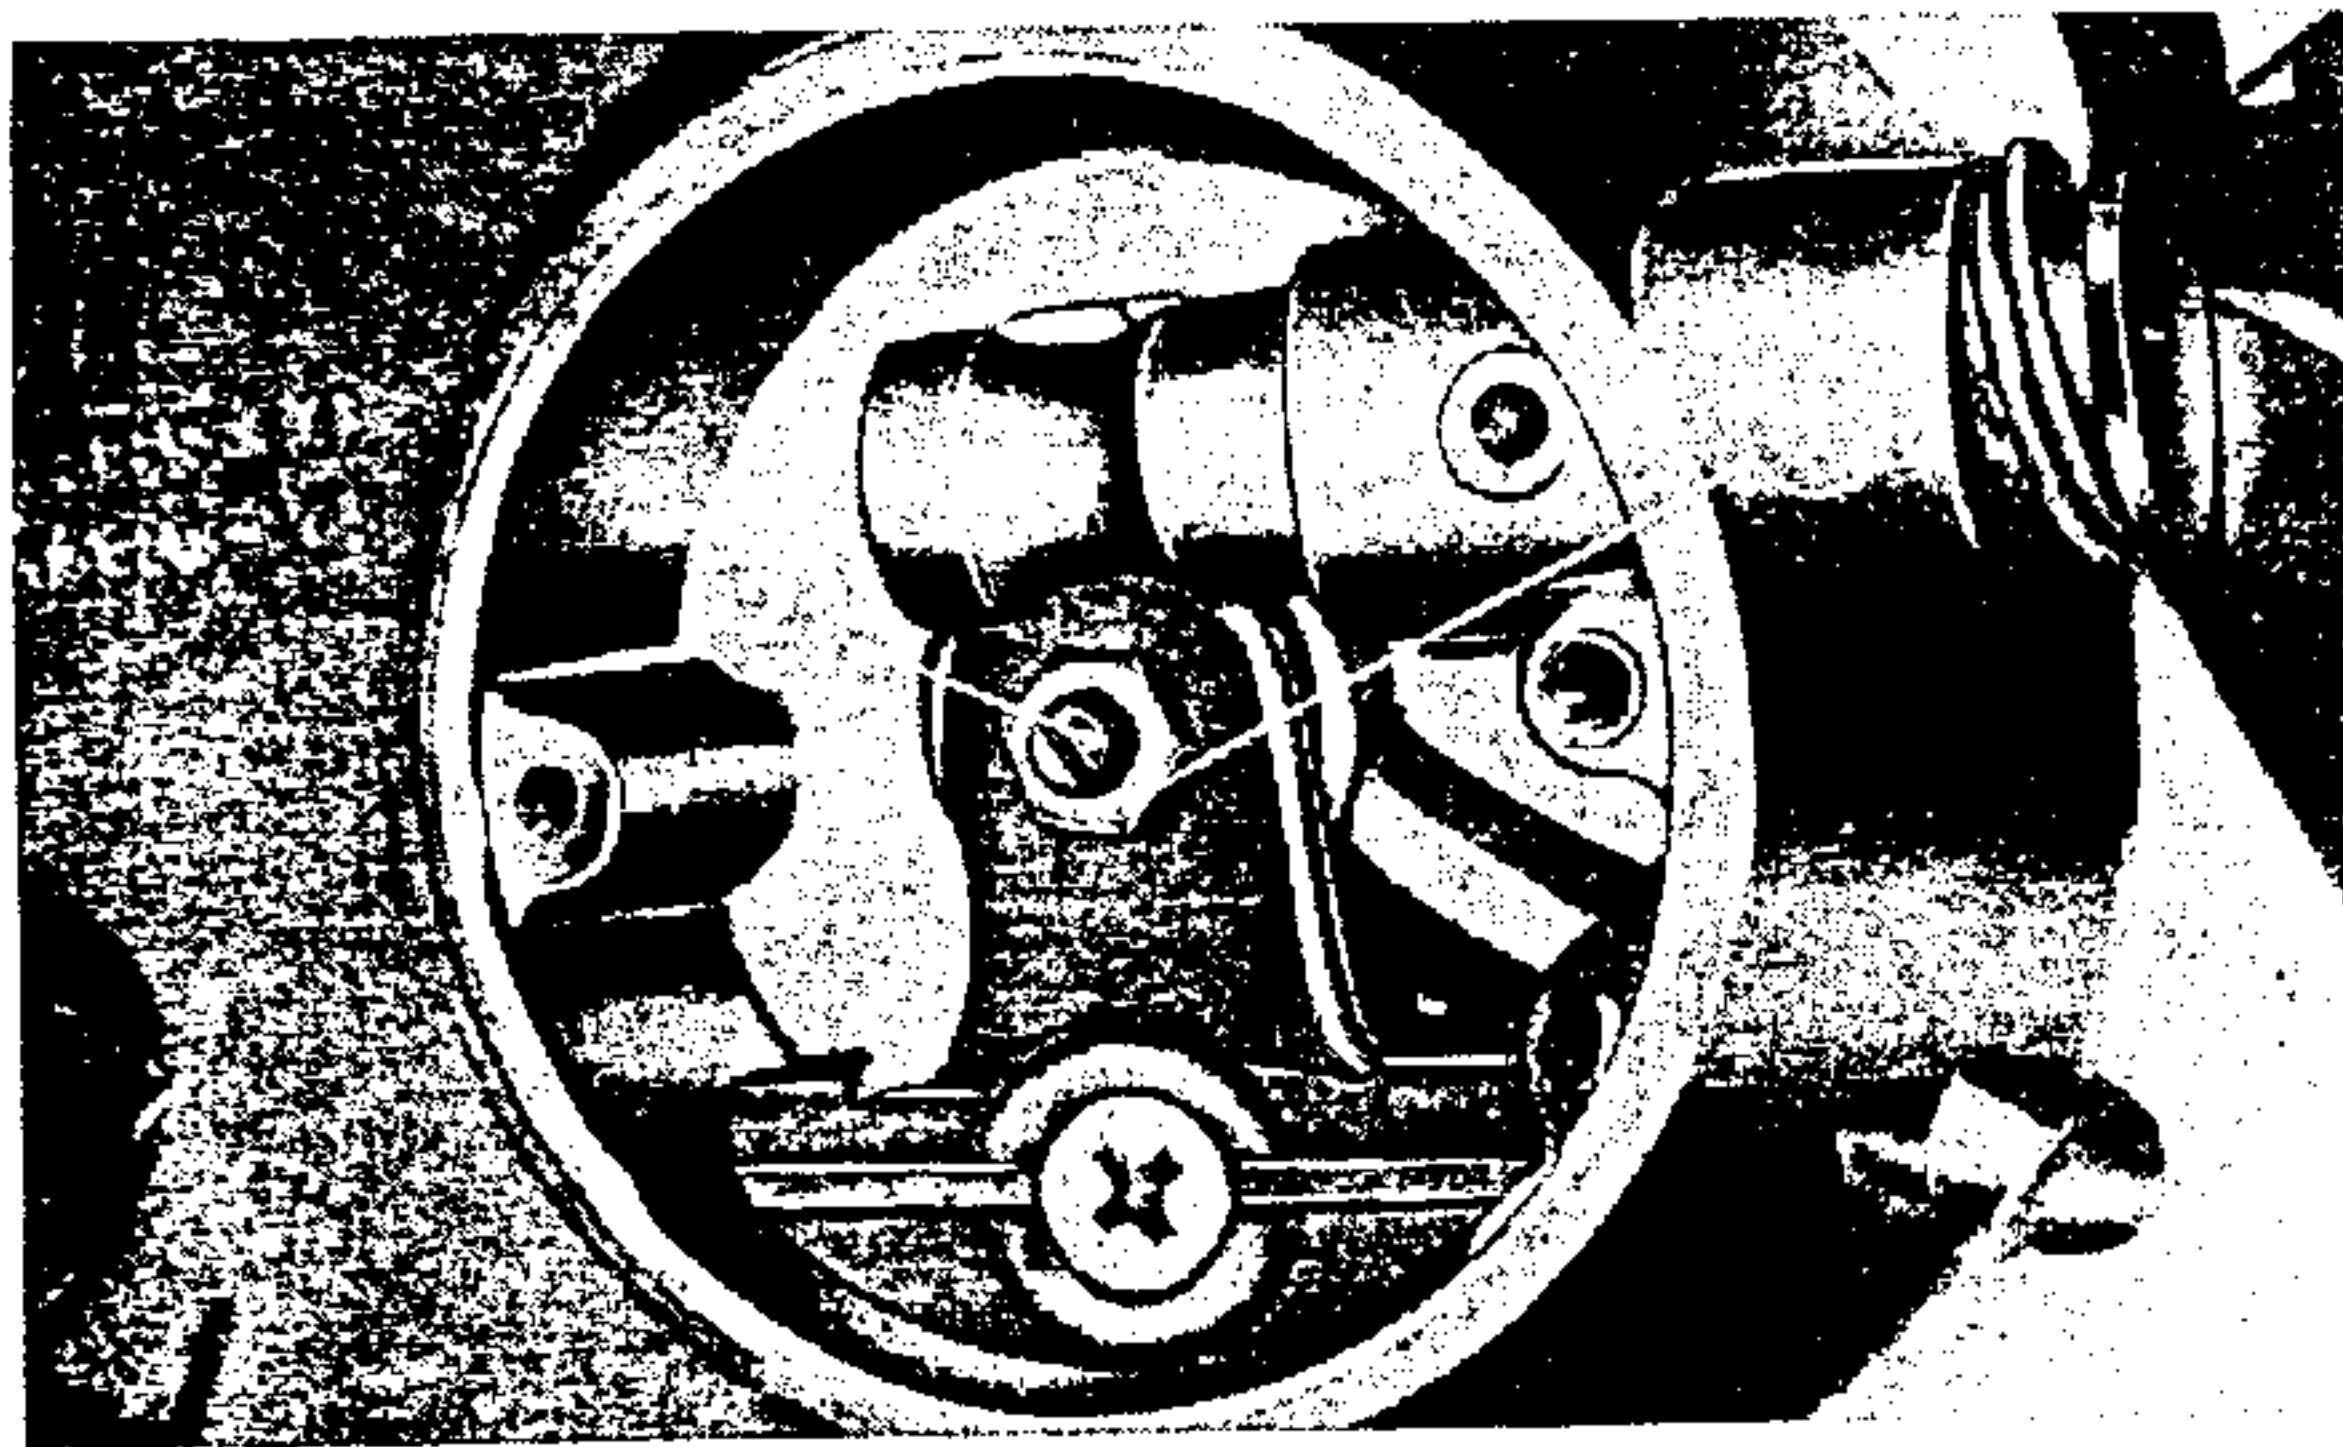

Fig. 38-2 (CT 70 H, CT 70, HK1)
- b. Remove the clutch cover and loosen the lock nut. Turn the adjusting screw clockwise until a slight resistance is felt, then back off 1/4 turn (Fig. 38-2).